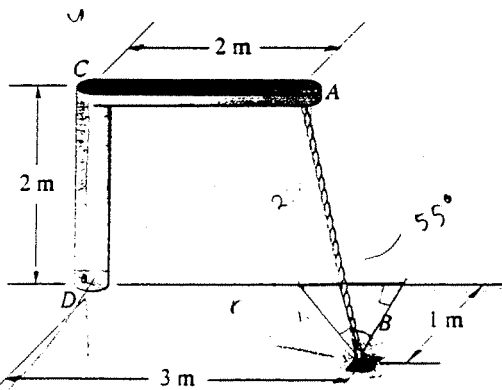

Fig. 2
- 35 (2) The tension in cable  $AB$  is 2 kN in Fig. 2. (a) What are the magnitude and direction of the moment about point  $D$  due to the force exerted by the cable? (b) What is the moment about the shaft  $CD$  due to the same force? Draw a sketch to indicate the sense of the moment about the shaft.